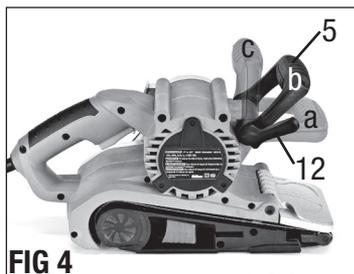

FIG 4
ADJUSTING FRONT HANDLE (FIG 4)
The front handle (5) can be adjusted to one of three positions: (a) Horizontal, (b) 45° Angled, and (c) Vertical, for better control and comfort under different working positions. See FIG 4.